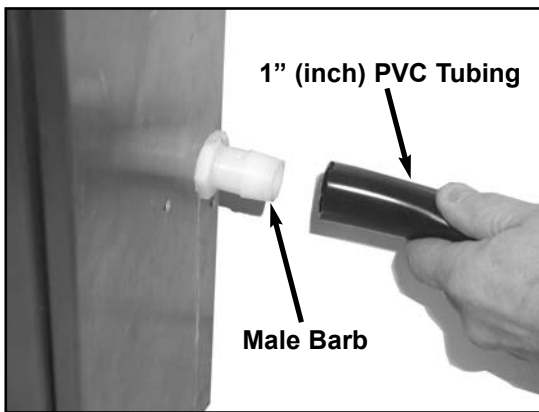

Figure 1
2. Place PVC Tubing over Male Barb until flush. See **Figure 1 & 1a**.